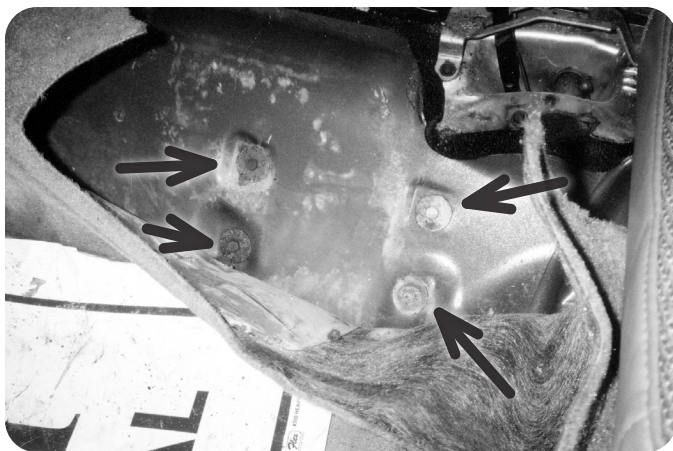

Figure 2
1. Locate the transfer case shift linkage pivot bracket mounted to the underside of the floor on the driver's side, next to the transfer case. The bracket is mounted to the floor with four bolts that are accessed under the carpet in front of the driver's seat. Pull the carpet up and remove the bolts **Figure 2**. Save hardware.